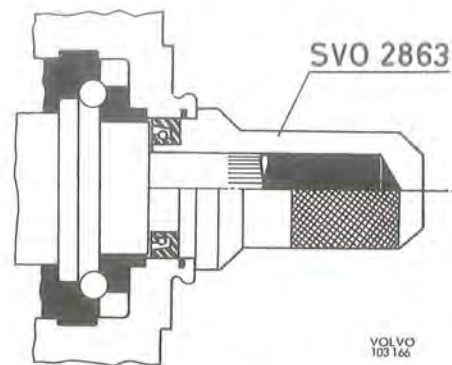

Fig. 6-66. Filling the sealing ring
5. Fill the space between the new sealing ring lips with multipurpose grease. Fit the sealing ring on to installation tool SVO 2863 with the help of the loose guide. Remove the guide and fit the sealing ring in the steering box, see Fig. 6-66.